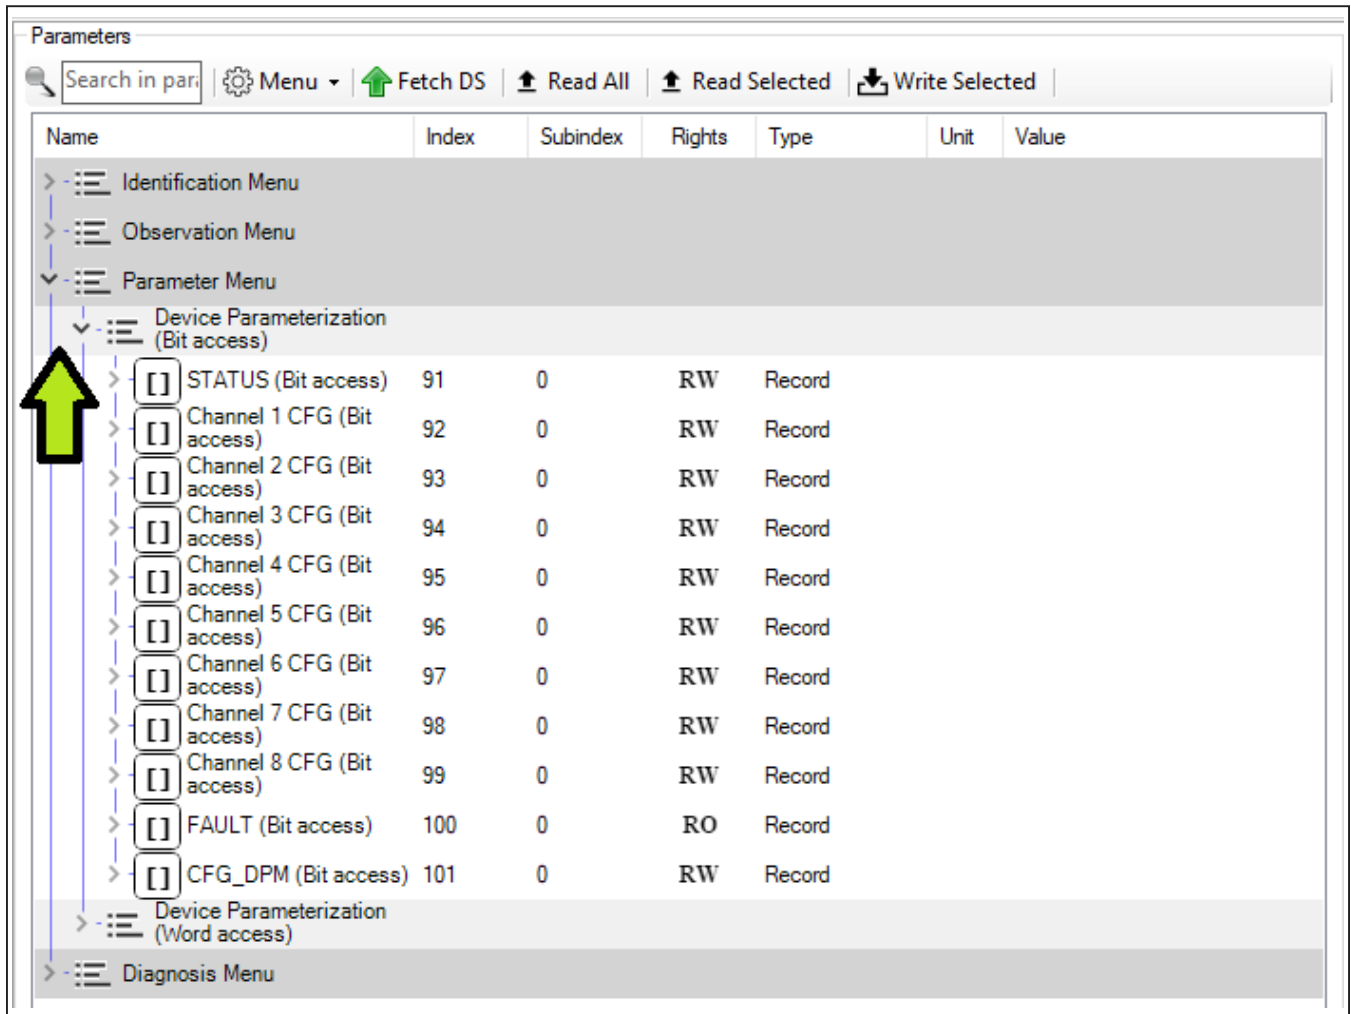

Figure 8. Device Parameterization (Bit access) menu.
11) Details about above status information as well as adjustments can be made in the **Parameter** menu in the top right part of the Port window as shown in Figure 8.